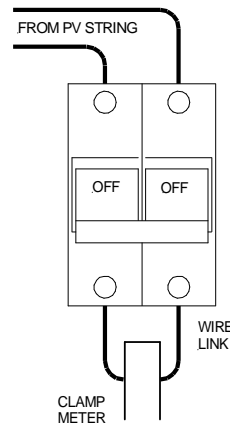

Figure 3
1. Where short circuit currents are required undertake the following steps to measure the short circuit current safely as shown in Figure 3: